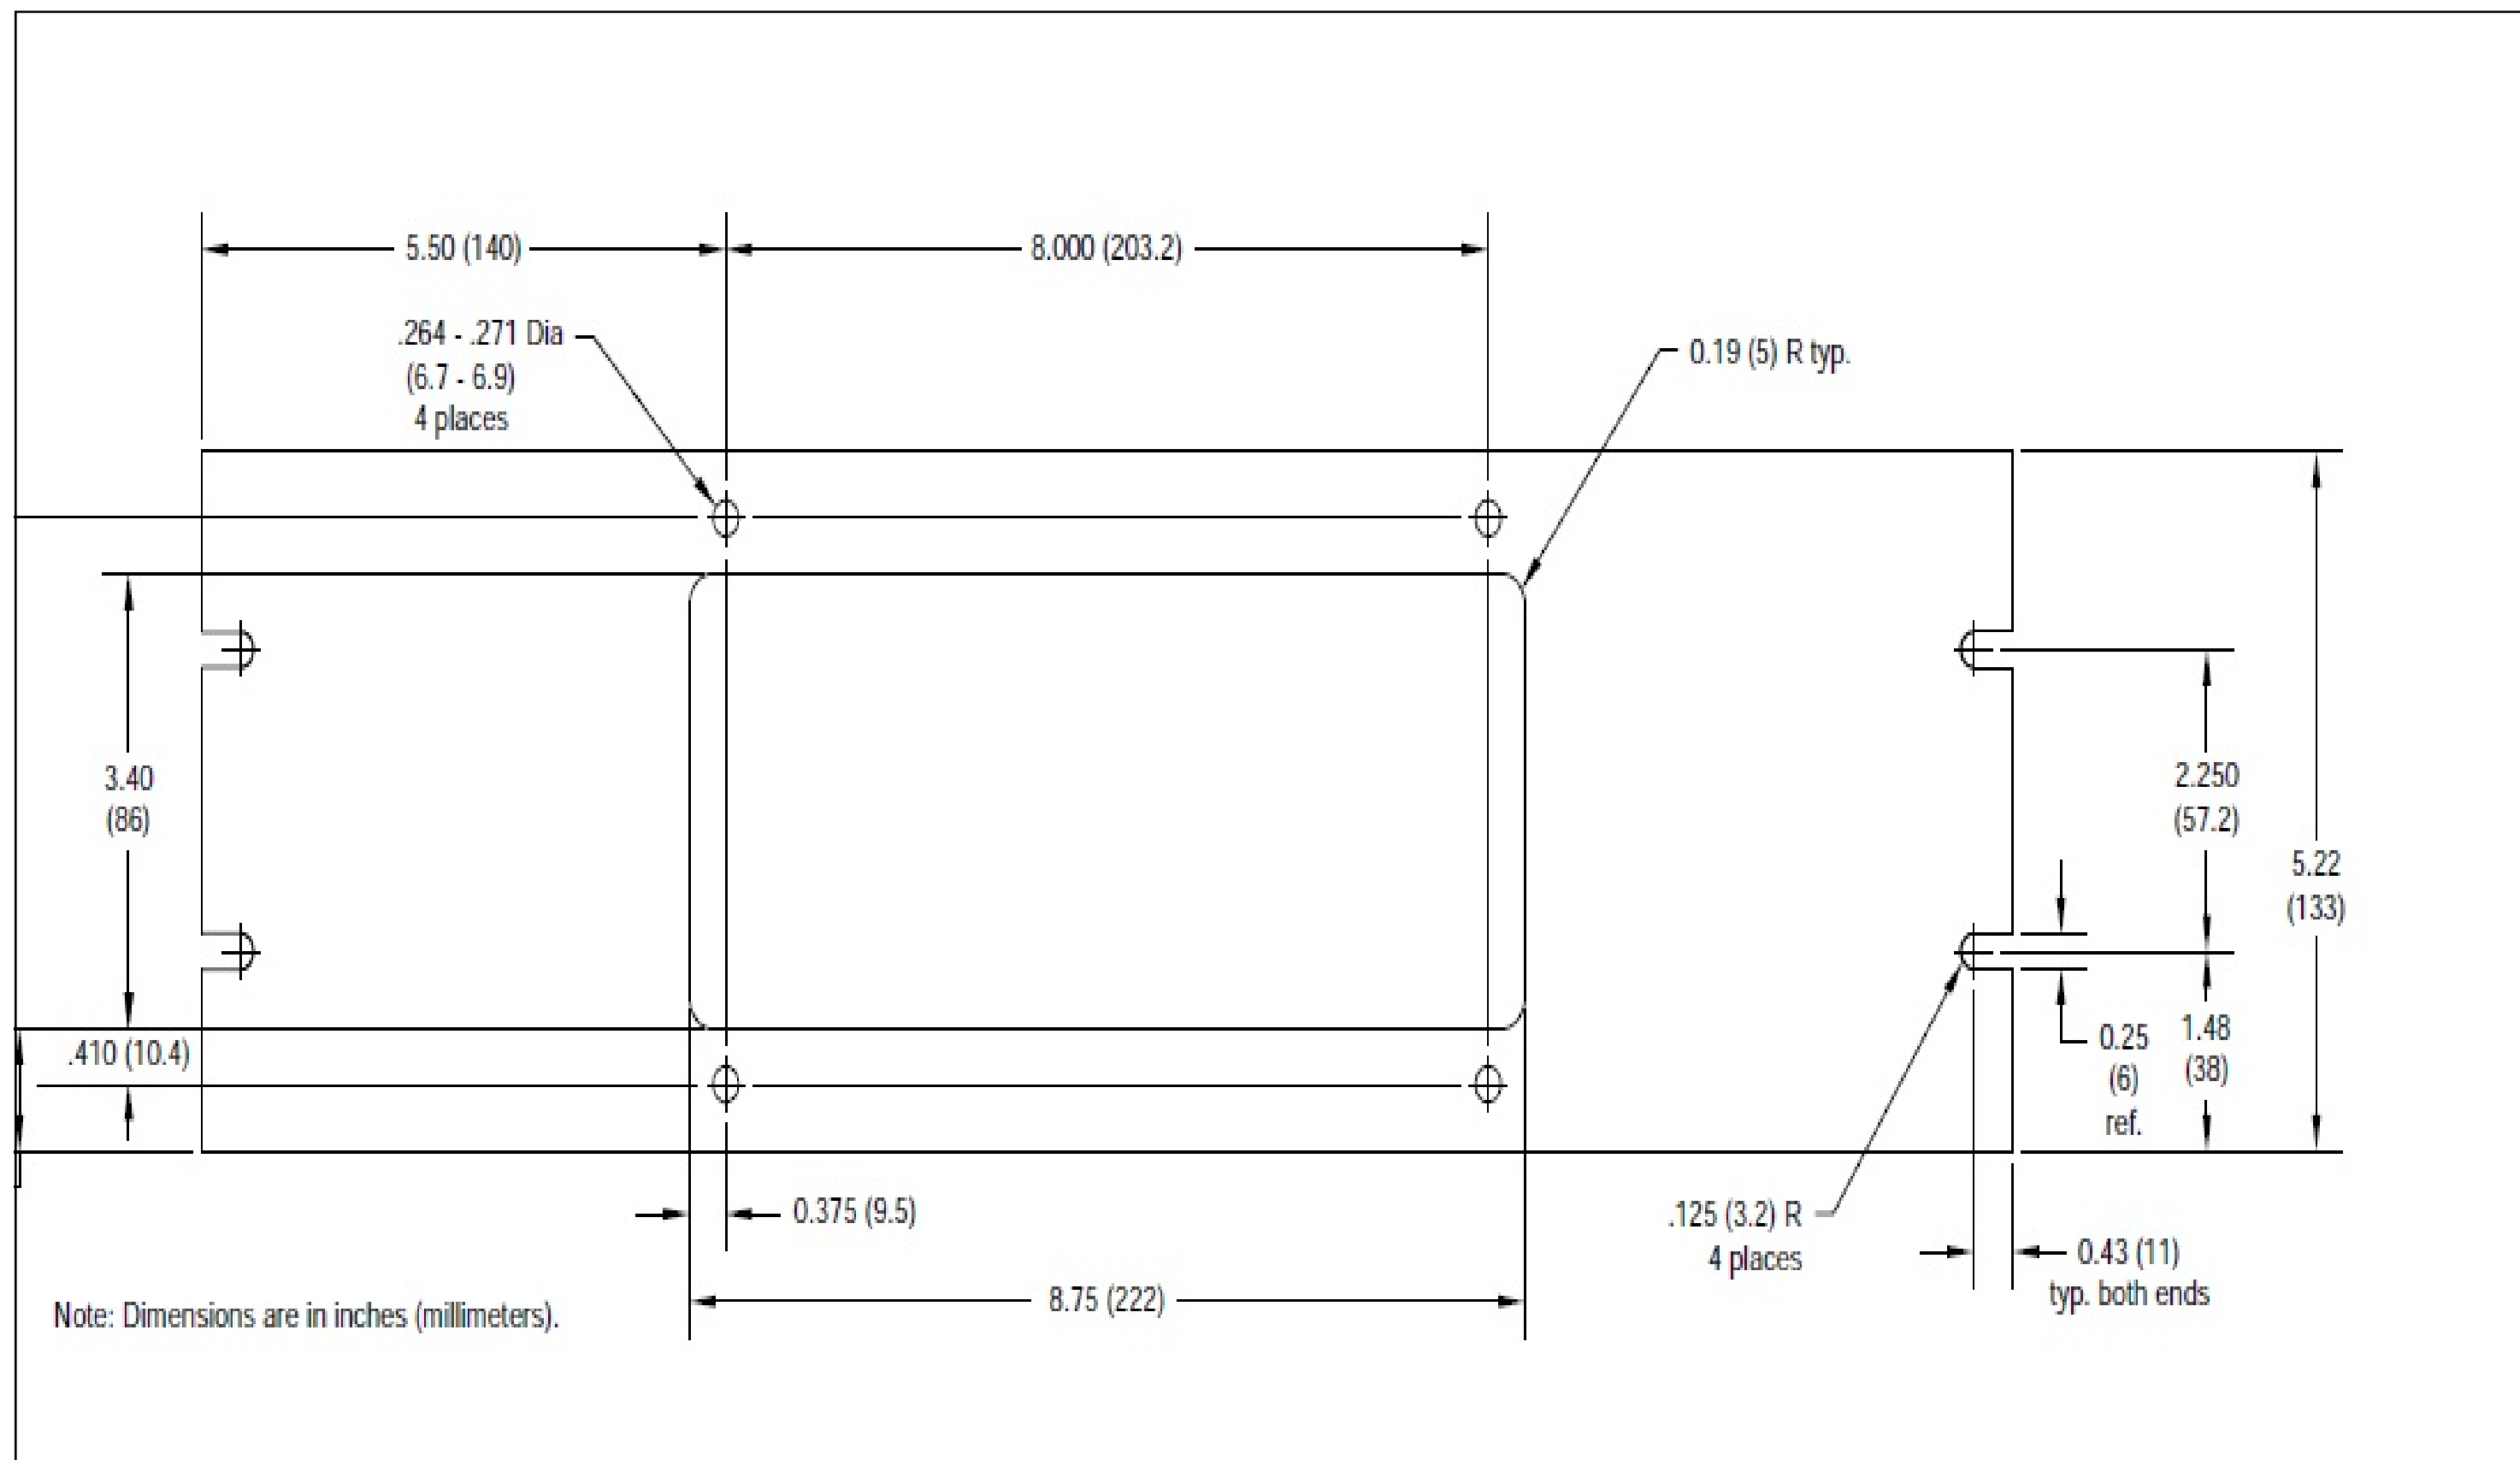

Figure 19: Panel and Rack Mounting Dimensions (ref. dwg #712-255)
- *Figure 19:* Panel and Rack Mounting Dimensions